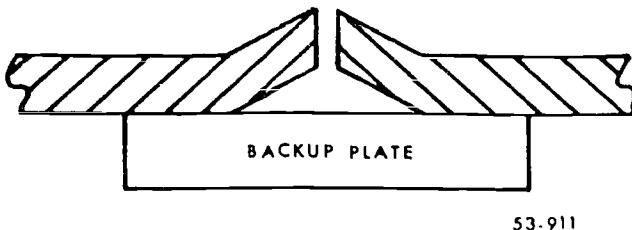
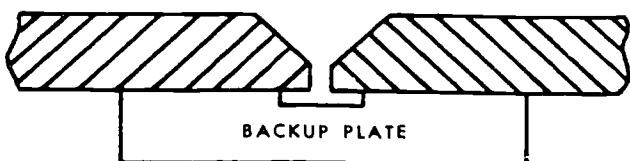

Figure 6-1. Backup plate used on a flange-type joint.
Figure 6-2. Backup plate used on a square edge butt joint.
On some gas-shielded welding applications, the joint edges should be backed up to obtain the best results. On light gage material, backing is usually used to protect the underside of the weld from atmospheric contamination, which would result in possible weld porosity or poor surface appearance. In addition, weld backup on heavier metals prevents the weld from melting through by conducting some of the heat away from the joint edges. Three methods of backing up welds to protect the undersides of the welds are: (1) introduce an inert gas on the underside of the weld, (2) use a combination of backup plate and an inert gas, and (3) brush flux on the underside of the joint. Flat metal backup plates may be used only on joints of the flange type, as shown in figure 6-1. If the plate comes in contact with the underside of the weld, the penetration will be rough and uneven. On square edge butt joints, the backup plate is grooved directly below the joint edges, as shown in figure 6-2. This groove permits the weld metal to penetrate uniformly through the joint. When the weld must conform to extremely rigid specifications, you must take extra care to exclude all atmospheric oxygen from the weld. Do this by introducing the shielding gas into the relief groove of the backing plate. When the design of the assembly prohibits using a backing plate, you can direct a series of hydrogen flames on the underside of the joint to exclude the atmosphere from the weld.